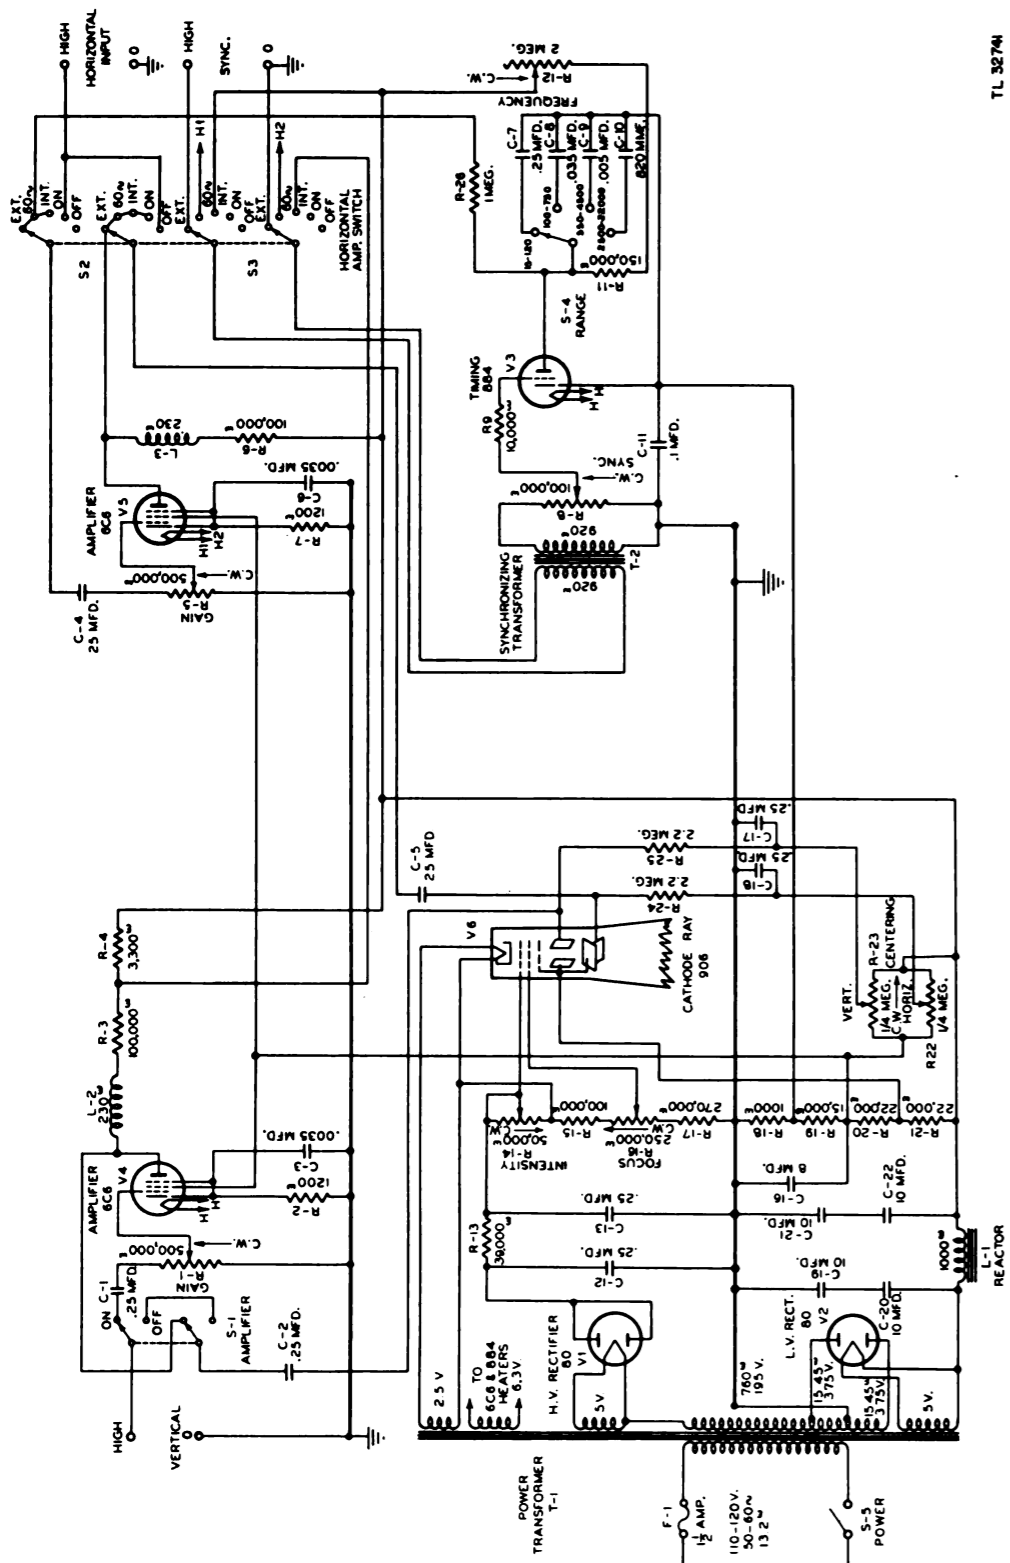
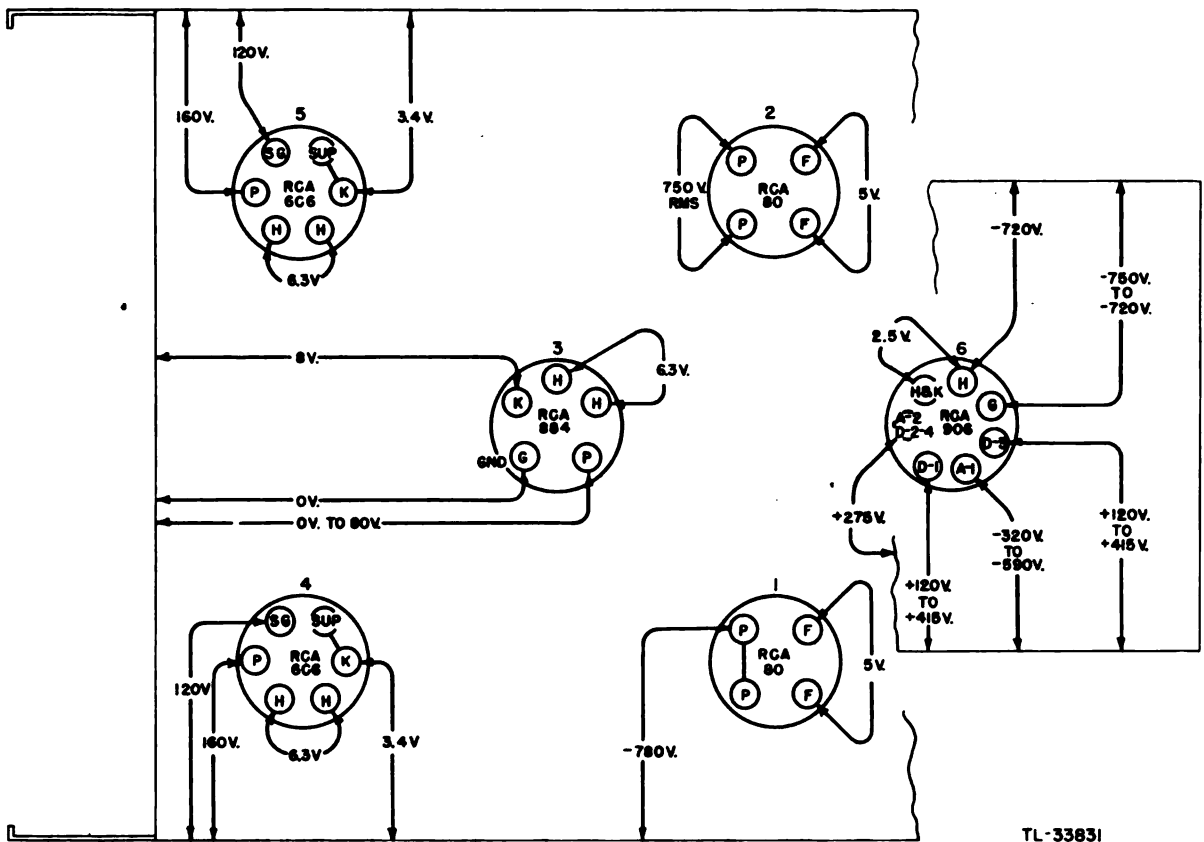

Figure 26. Oscilloscope, RCA model 155-A, schematic diagram.
Figure 27. Oscilloscope, RCA model 155-A, tube-socket diagram.
(2) Complete maintenance on these oscilloscopes will consist chiefly of tube and fuse replacement, and to a lesser extent, replacing component parts. Fault location can be ascertained by continuity tests, resistance measurements, voltage readings, signal tracing, and visual inspection.
(3) The schematic diagram (fig. 26) contains information concerning power supply voltages, d-c resistances of transformer windings, and values of component parts. Consult figure 27 for tube-socket arrangements and voltages at tube pins.
b. Circuit Analysis. (1) The following description of circuit operation is presented as an aid in trouble shooting. For the schematic diagram, consult figure 26.
(2) An amplifier consisting of a single 6C6-tube (V4) constitutes the means of obtaining gain for the voltage applied to the vertical-deflection system. The input to this stage is to a high-resistance potentiometer R1 which is used as the GAIN control. An isolation capacitor C1 is made a part of the input circuit to exclude any direct current which may be associated with the circuit being observed. The plate or output circuit of the 6C6-tube is composed of the two following elements in series: a resistor R3, and an inductor L2. Resistor R4 is in series with the positive voltage to the plate from the rectifier supply. Coupling from the amplifier plate to the cathode-ray tube is made through a capacitor C2.
(3) The amplifier for the voltage applied to the horizontal deflecting plates using another 6C6-tube (V5) is identical with that described above.
(4) Switches S1 and S2-S3 are provided to disconnect either or both amplifiers, thereby applying the voltage to be observed directly to the deflect-